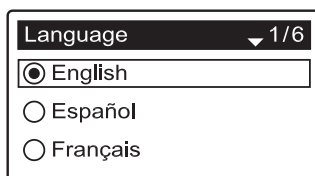

FIG. 8
1. **LANGUAGE** If the desired language already has a black dot next to it (See Figure 8), go to Step 2. Otherwise, press the conditioner/refiner’s DOWN (▼) or UP (▲) buttons to scroll to the desired language, then press the SELECT (○) button to choose it.